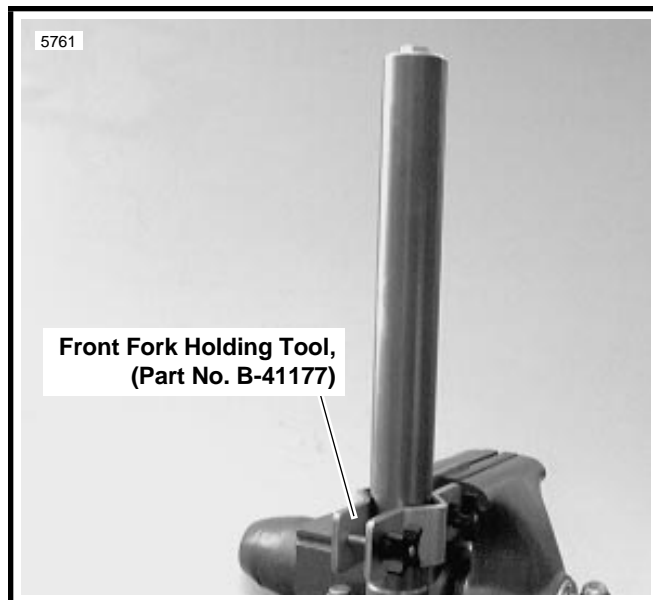

Figure 2-30. Front Fork Holding Tool
1. See Figure 2-30. Clamp the fork vertically in a vise using FRONT FORK HOLDING TOOL (Part No. B-41177).